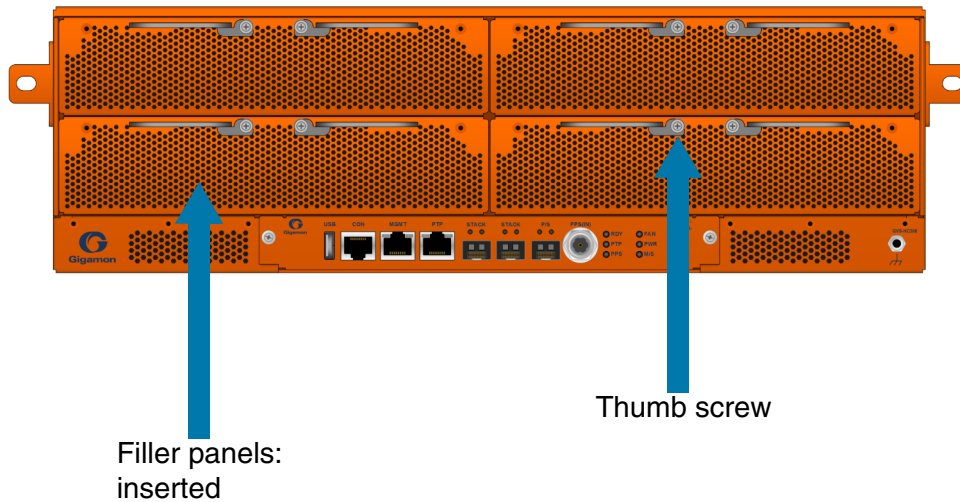

Figure 3-8: Filler Panels Inserted
3. Locate the protective filler panels in the bays. Refer to Figure 3-8 on page 66.